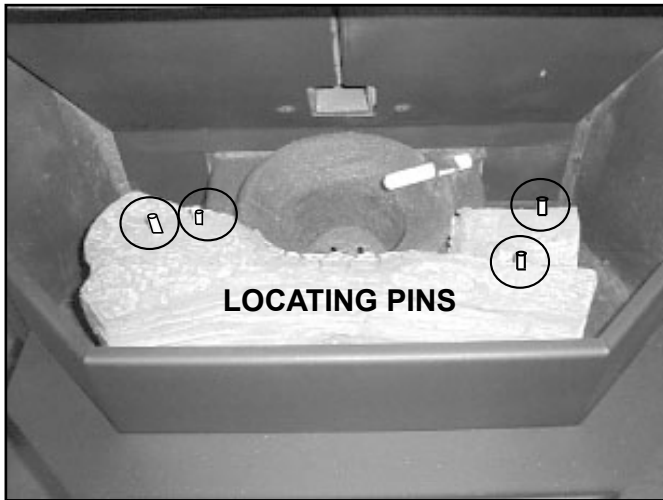

Figure 23.1
1. Place the front log in first as shown in **Figure 23.1**. Place log between firepot and face of appliance with charred area surrounding firepot.
3. Open right side plane to access a 4 screw terminal block located on the bottom right hand side next to the power cord inlet. The center 2 screws are for the thermostat wires. The outer 2 are the mounting screws for the terminal block. **Figure 23.1**.